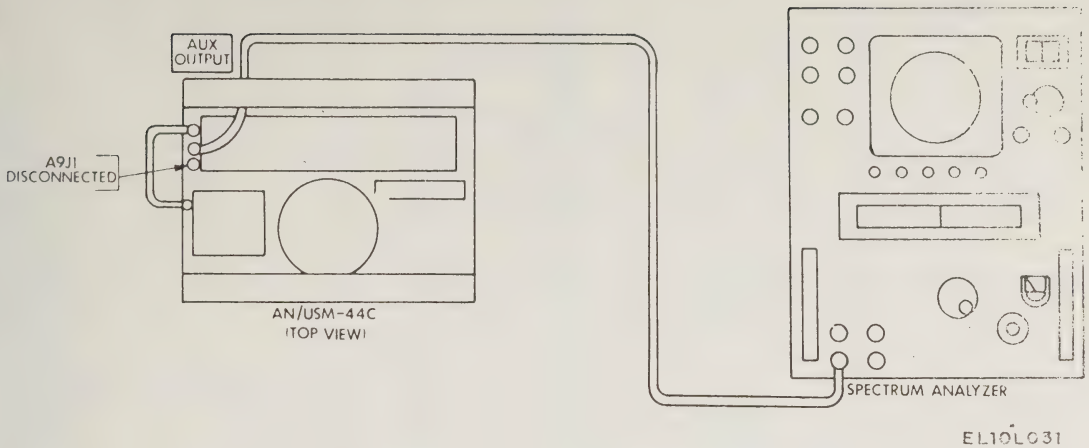

Figure 7-24. Marker amplitude adjustment, test setup.
(1) Connect test equipment as shown in figure 7-24.
(2) Adjust R8 on A5 for maximum waveform amplitude.